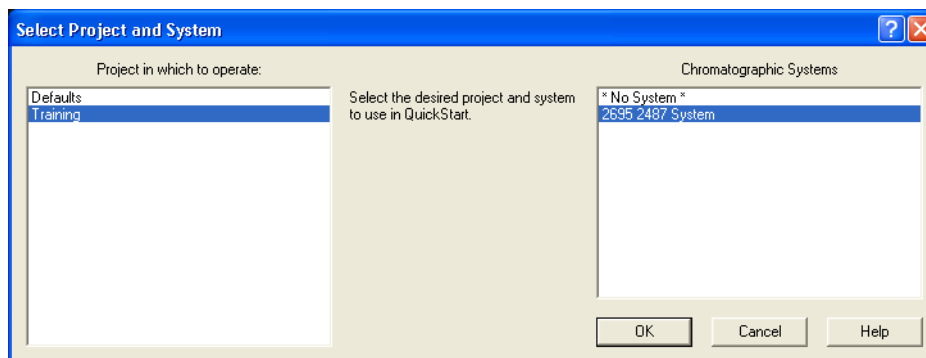

Figure 4-1 Select Project and System Dialog Box
1. Log in to your Empower software (see Section 3.2, Starting Up and Logging In). The Select Project and System dialog box appears (Figure 4-1).